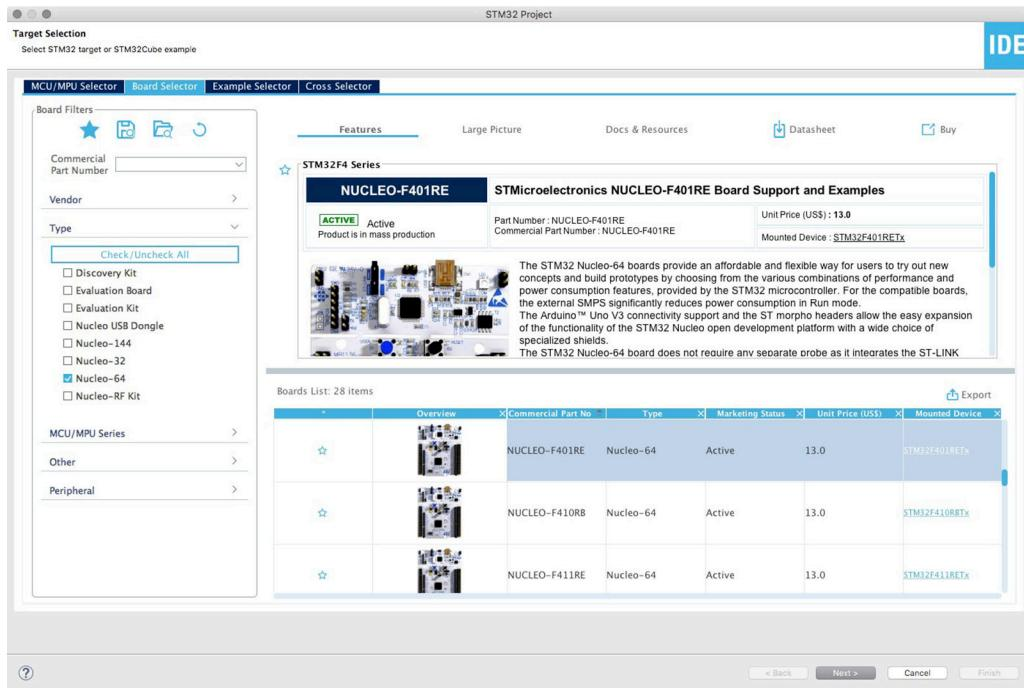

Figure 3.1: The Target Selection wizard - STEP 1
Go to **File->New->STM32 Project**. Depending on your current IDE configuration, the **Target Selection** wizard (shown in Figure 3.1) will appear in a while.
Now click on the **Board Selector** tab (highlighted in light blue in Figure 3.1), expand the menu **Type** and check the **Nucleo-64** family of boards. Dig inside the list of boards to find your specific Nucleo-64 board.
Once you select the board in the list, click on **Next** button. Specify a Project Name in the relative field (*hello-nucleo* in our case, but feel free to choose what it is best for you) and leave all other flags with the default configuration, as shown in **Figure 3.1**. Click on **Finish** to start the project generation.
- **Examples projects for development boards:** ST provides a lot of complete and working examples for its development boards. Every example is made to show how-to use a given feature of the board. Every Cube Firmware package integrates several examples, and you can browse the complete example list by clicking on the **Example Selector** tab in the **Target Selection** wizard (see **Figure 3.1**).